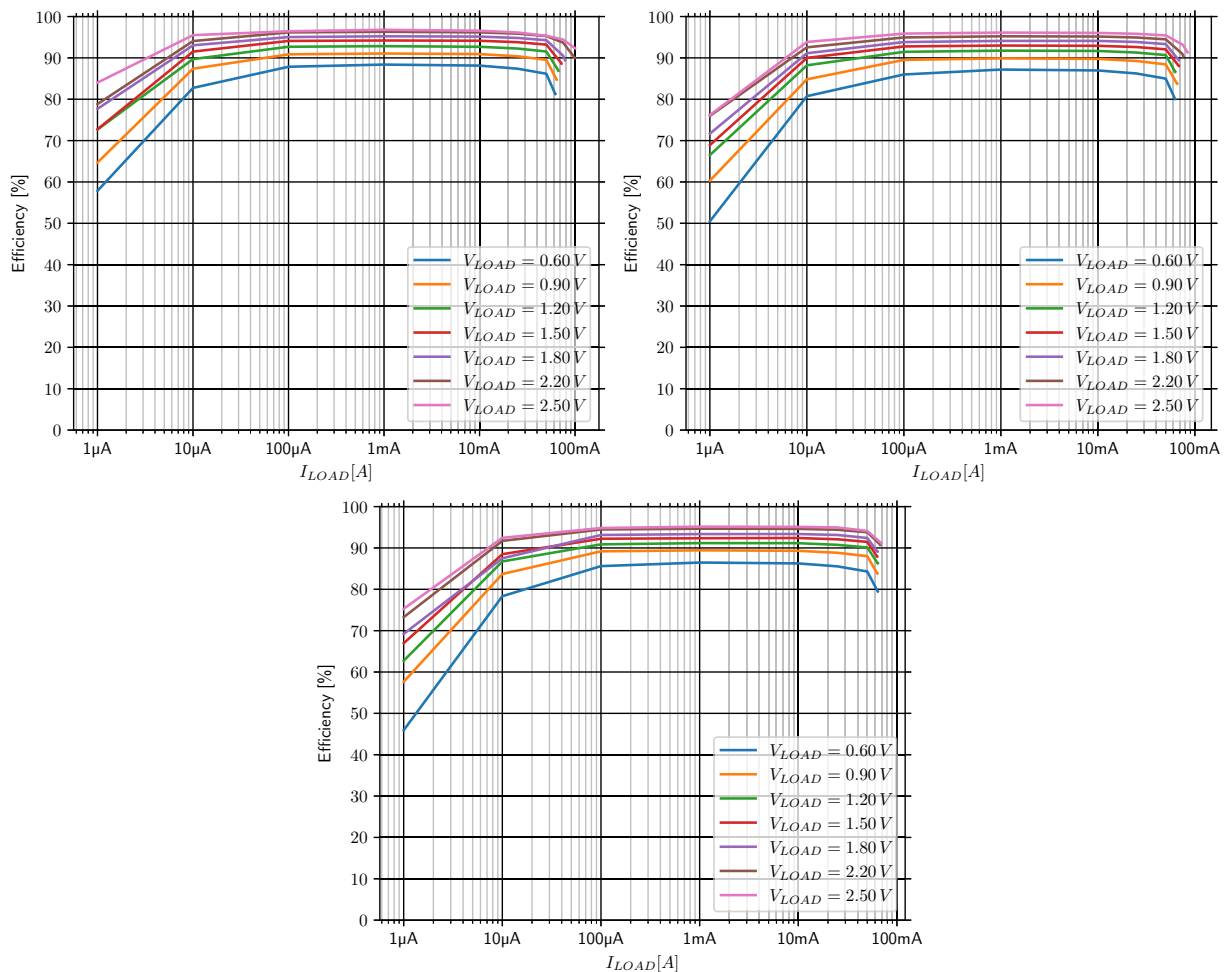

Figure 8: Buck (LOAD) converter efficiency with $L_{BUCK} = 10 \mu H$ (Coilcraft LPS4018-103MRB), $BUCKCFG.TMULT = 0x01$ (x2)
- Optional: a device able to act as an I²C master and send I²C commands to the AEM13920. Only useful when testing settings that are not accessible through the configuration pins, such as buck timings. Please note that the results shown on Figure 8 are with x2 buck timing, which has to be set to this value through I²C communication.